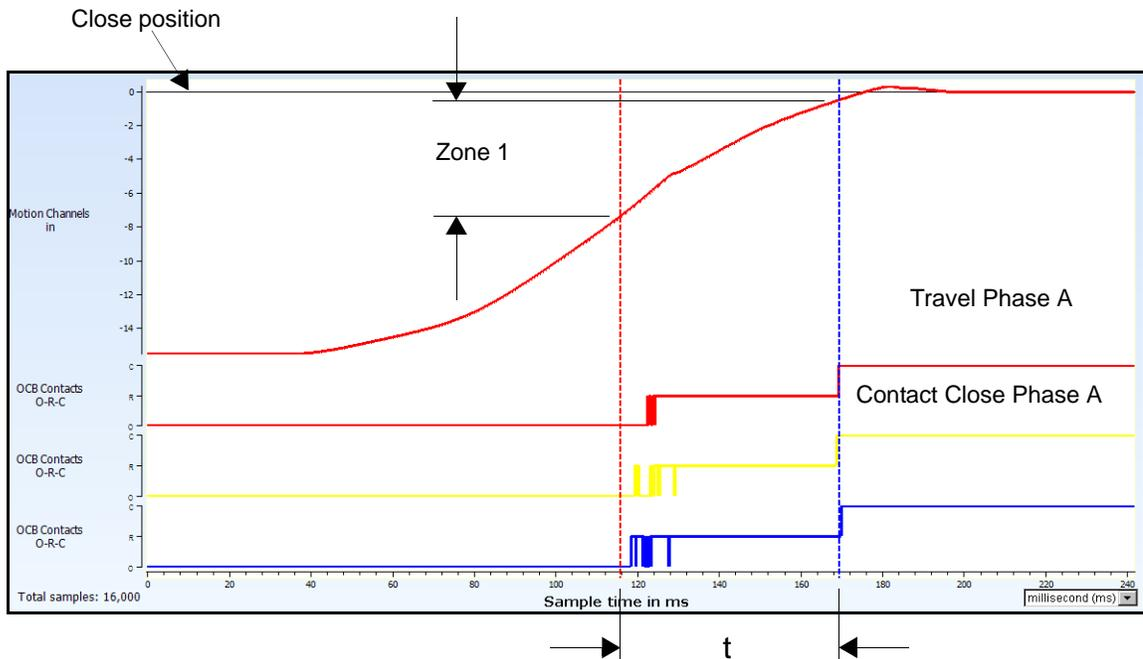

Figure 74 Average Velocity Time to Contact Close, Motion Channel #1 (Phase A) Active
- Time to Close—The circuit breaker average velocity is calculated for the period between the moment when the main contacts close and the time specified before the closure (Figure 74).